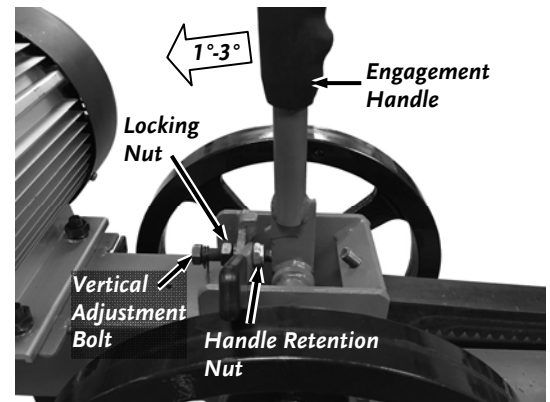

Figure 18
3. Move the Engagement Handle into the Split position (**Figure 18**).
4. Use a 17mm Wrench to loosen the Locking and Handle Retention Nuts on the Vertical Adjustment Bolt (**Figure 18**).